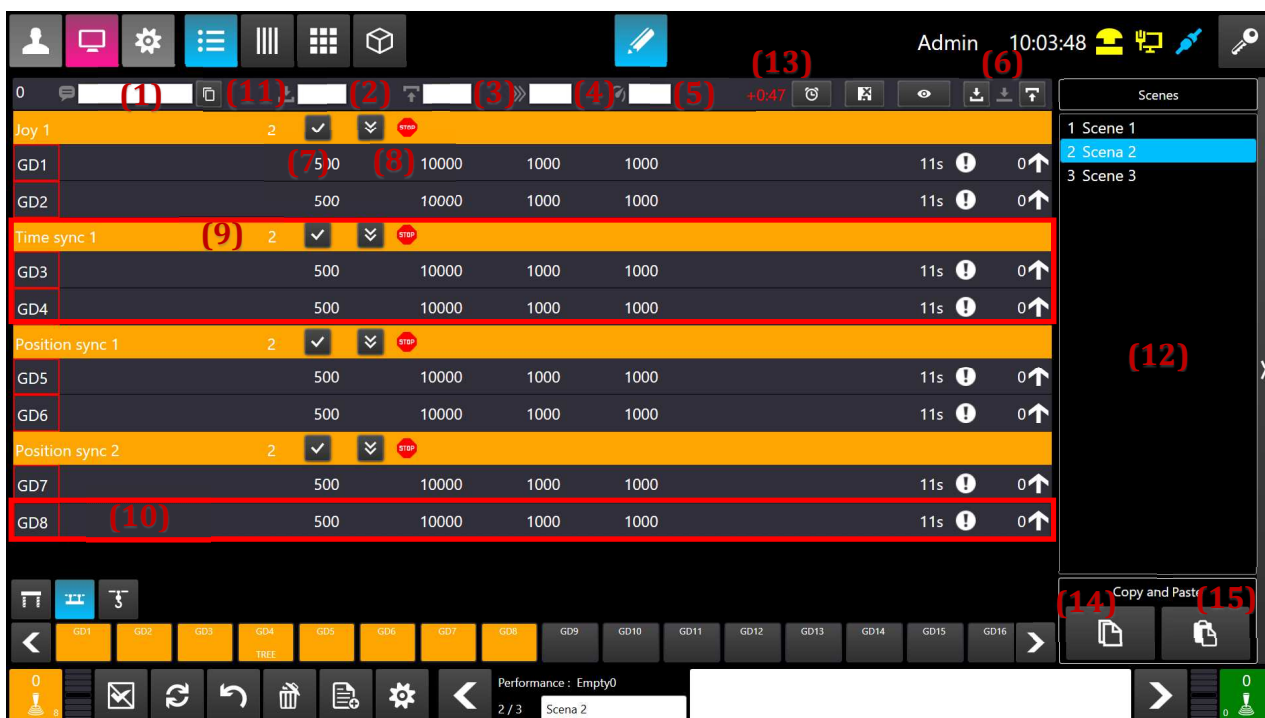

FIG. 35: SCENE
This function provides a possibility to copy chosen devices to other scenes or even other performances. We select the devices we want to copy from the actual scene device table. Selected devices will be stored to the memory of the computer by clicking button (14) - Fig. 35. The button turns blue, which means, the storage was successful. Then we switch to the scene, where we want to paste the devices from memory.
To paste the devices into the scene is done by clicking the button (15) - Fig. 35. If some of the pasted devices are already present in the selected scene (have the joystick assigned to them), a dialogue will emerge in which we choose preferred action. We can either override the existing device in that scene with the pasted device settings from the memory or we can skip pasting the device and keep the original one.
To remove devices from the memory is done by long clicking the button (14) - Fig. 35 or by short clicking the same button after all devices were deselected (to deselect the devices, use button (2) - Fig. 24). Successful memory erase is signaled by removing the blue color from the button (14) - Fig. 35.
By pushing the joystick forward, the devices will move to their target positions (see (3) in Fig. 35). On the other hand, by pulling backward, the devices will move back to their starting positions (2). Advantage of this method of control is, for example, possibility of the shear movement using one joystick only. Direction of movement of the device after deflecting the joystick forward is indicated by an arrow (11) at the end of the line. The exclamation mark (12) is displayed when the current position of the device is outside the extreme travel range.